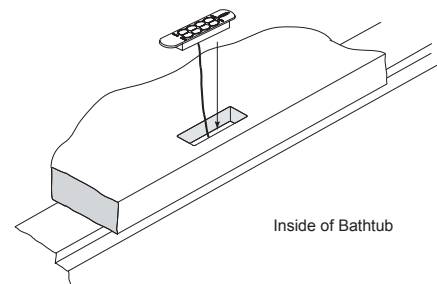

Figure 7 - Control Panel
- 5** Lower the control panel into the cutout and press firmly to embed the adhesive (Figure 7).